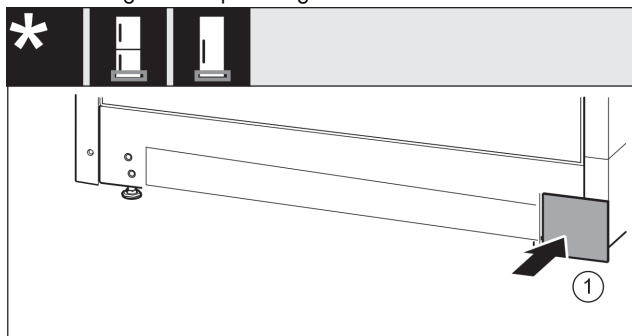

Fig. 33
- ▶ Re-attach the cover *Fig. 33 (1)* to the other side.